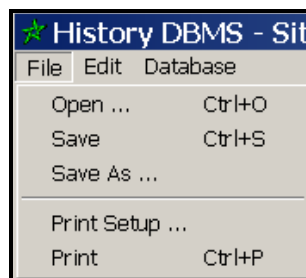

Figure 18. Database | Create History Dialog | File Menu
In Figure 18, the **File** menu on the **History** dialog has five (5) choices, which are discussed below.